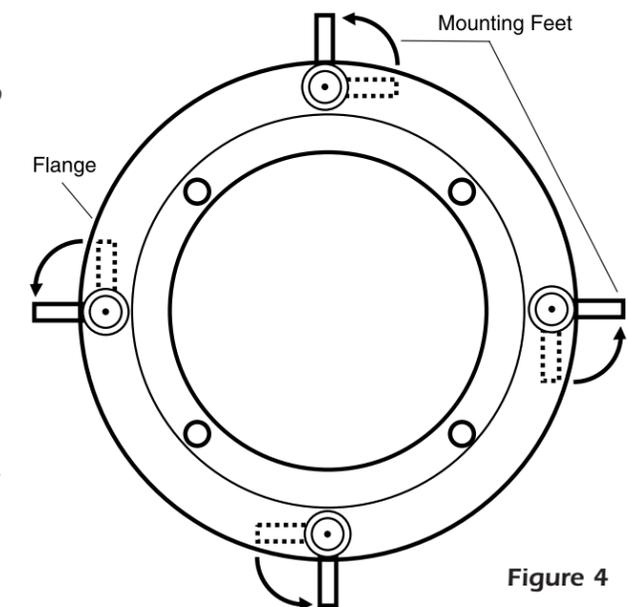

Figure 4
3. Make sure the mounting feet are turned inward to clear the opening, and insert the speaker into the ceiling. Position the speaker into the hole. **Note:** The flange of the speaker is designed to flex and conform to any small imperfections in the ceiling surface. Tighten the 4 screws on the front of the baffle only enough to make the flange become snug against the ceiling. As you tighten the screws, the feet will automatically flip into an outward position (See Figure 4), clamping the drywall between the feet and the flange. **Caution:** Over tightening may warp the baffle, crack the ceiling, cause the flange to distort, and make the grille difficult to install.